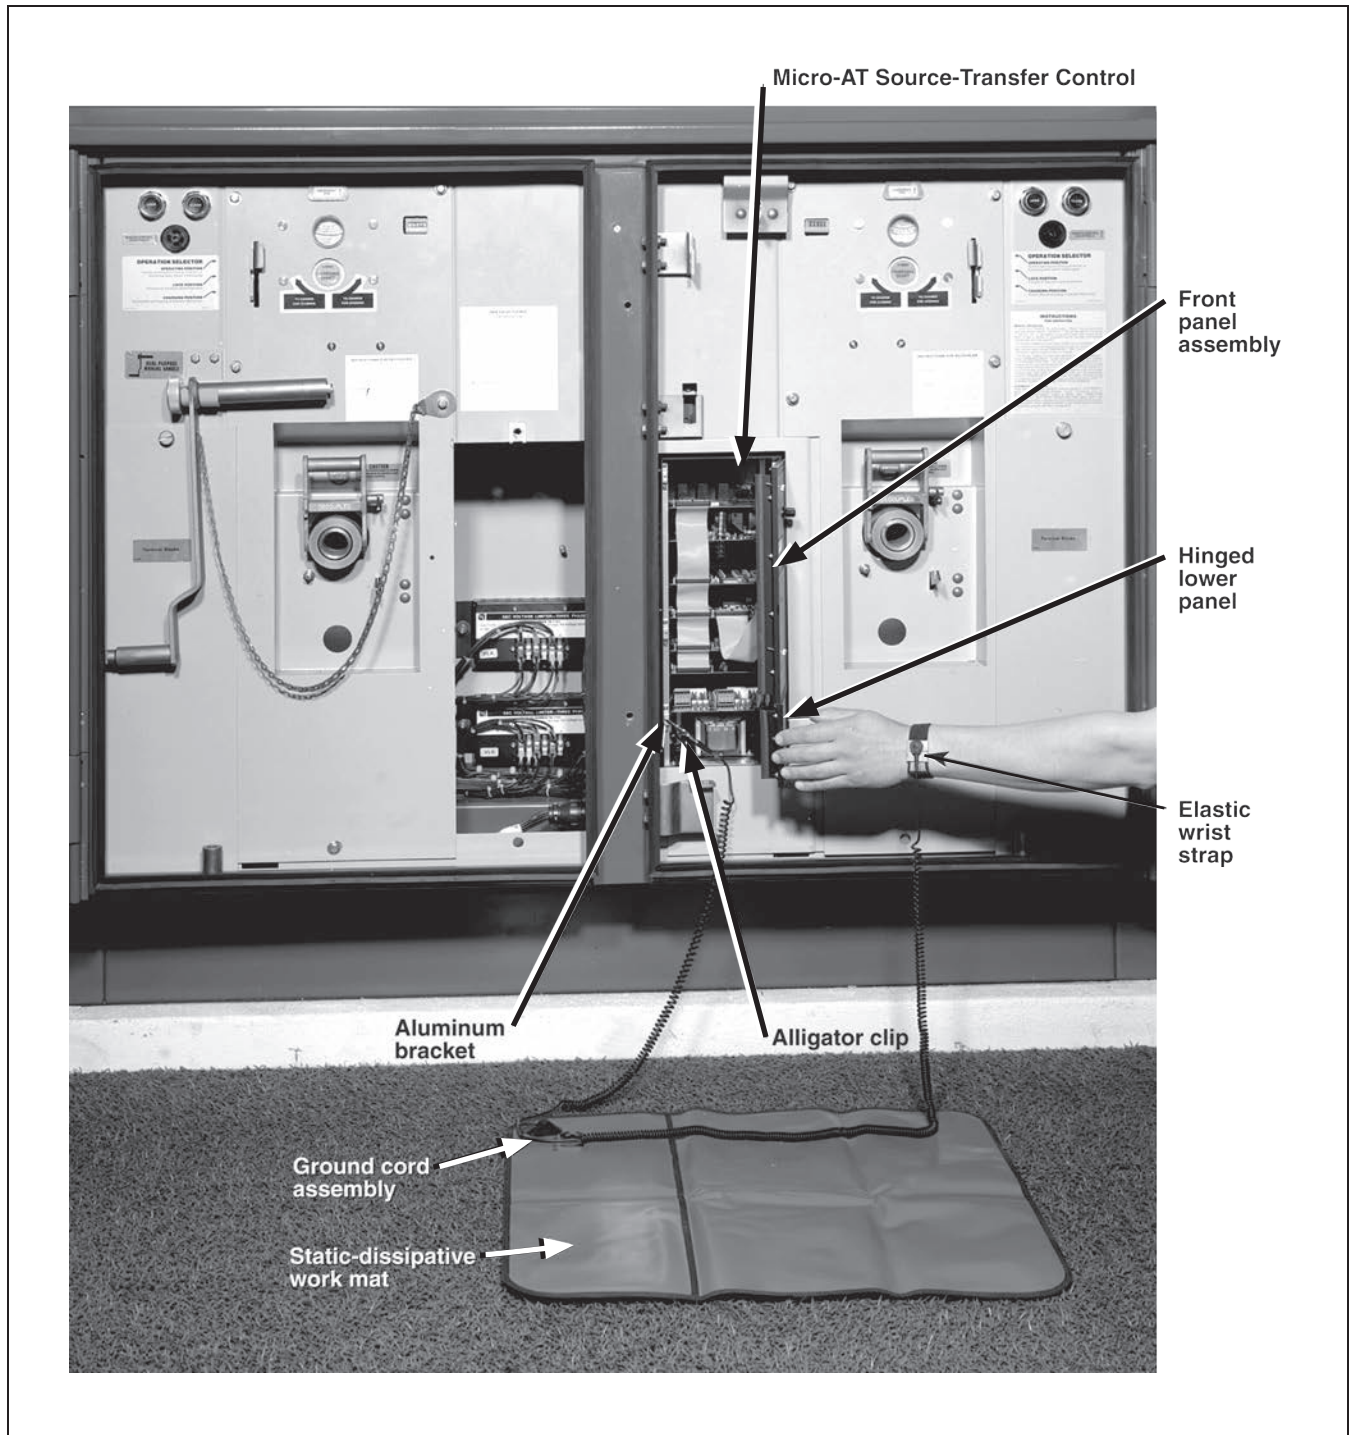

Figure 2. Setting up a 3M 8501 Portable Static-Dissipative Field Service Kit.
- STEP 4.** Open up the static-dissipative work mat in front of the Micro-AT Source-Transfer Control. See Figure 2 on page 7.
STEP 5. Loosen the two screws that retain the front panel assembly and swing open the front panel assembly. Also, loosen the screw that retains the hinged lower panel and swing open the lower panel. See Figure 2 on page 7.
STEP 6. Attach the ground cord assembly onto the work mat by means of the large black snap. See Figure 2 on page 7.
STEP 7. Attach the alligator clip on the shorter of the two wire leads to one of the three aluminum brackets on the source-transfer control enclosure. See Figure 2 on page 7. The lowest bracket is generally the most convenient to use.
STEP 8. Slip on the elastic wrist strap and attach the band so it fits snugly, but comfortably. Attach the longer of the two wire leads to the wrist band by means of the small plastic snap. See Figure 2 on page 7.
- STEP 2.** Attach the ground cord assembly onto the work mat by means of the large black snap. See Figure 2 on page 7.
- STEP 4.** Slip on the elastic wrist strap and attach the band so it fits snugly, but comfortably. Attach the longer of the two wire leads to the wrist band by means of the small plastic snap. See Figure 2 on page 7.